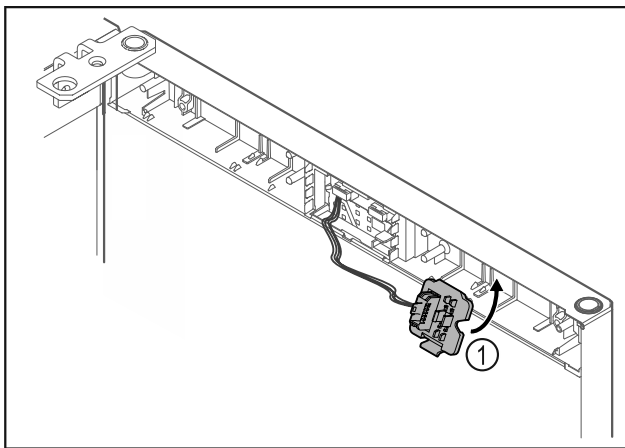

Fig. 19
- ▶ Snap in the plug holder Fig. 19 (1) on the opposite side.